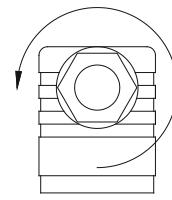

Fig. 7
- ↳ Loosen the screwed cable gland ⑤ M16x1,5 (→ Fig. 7).